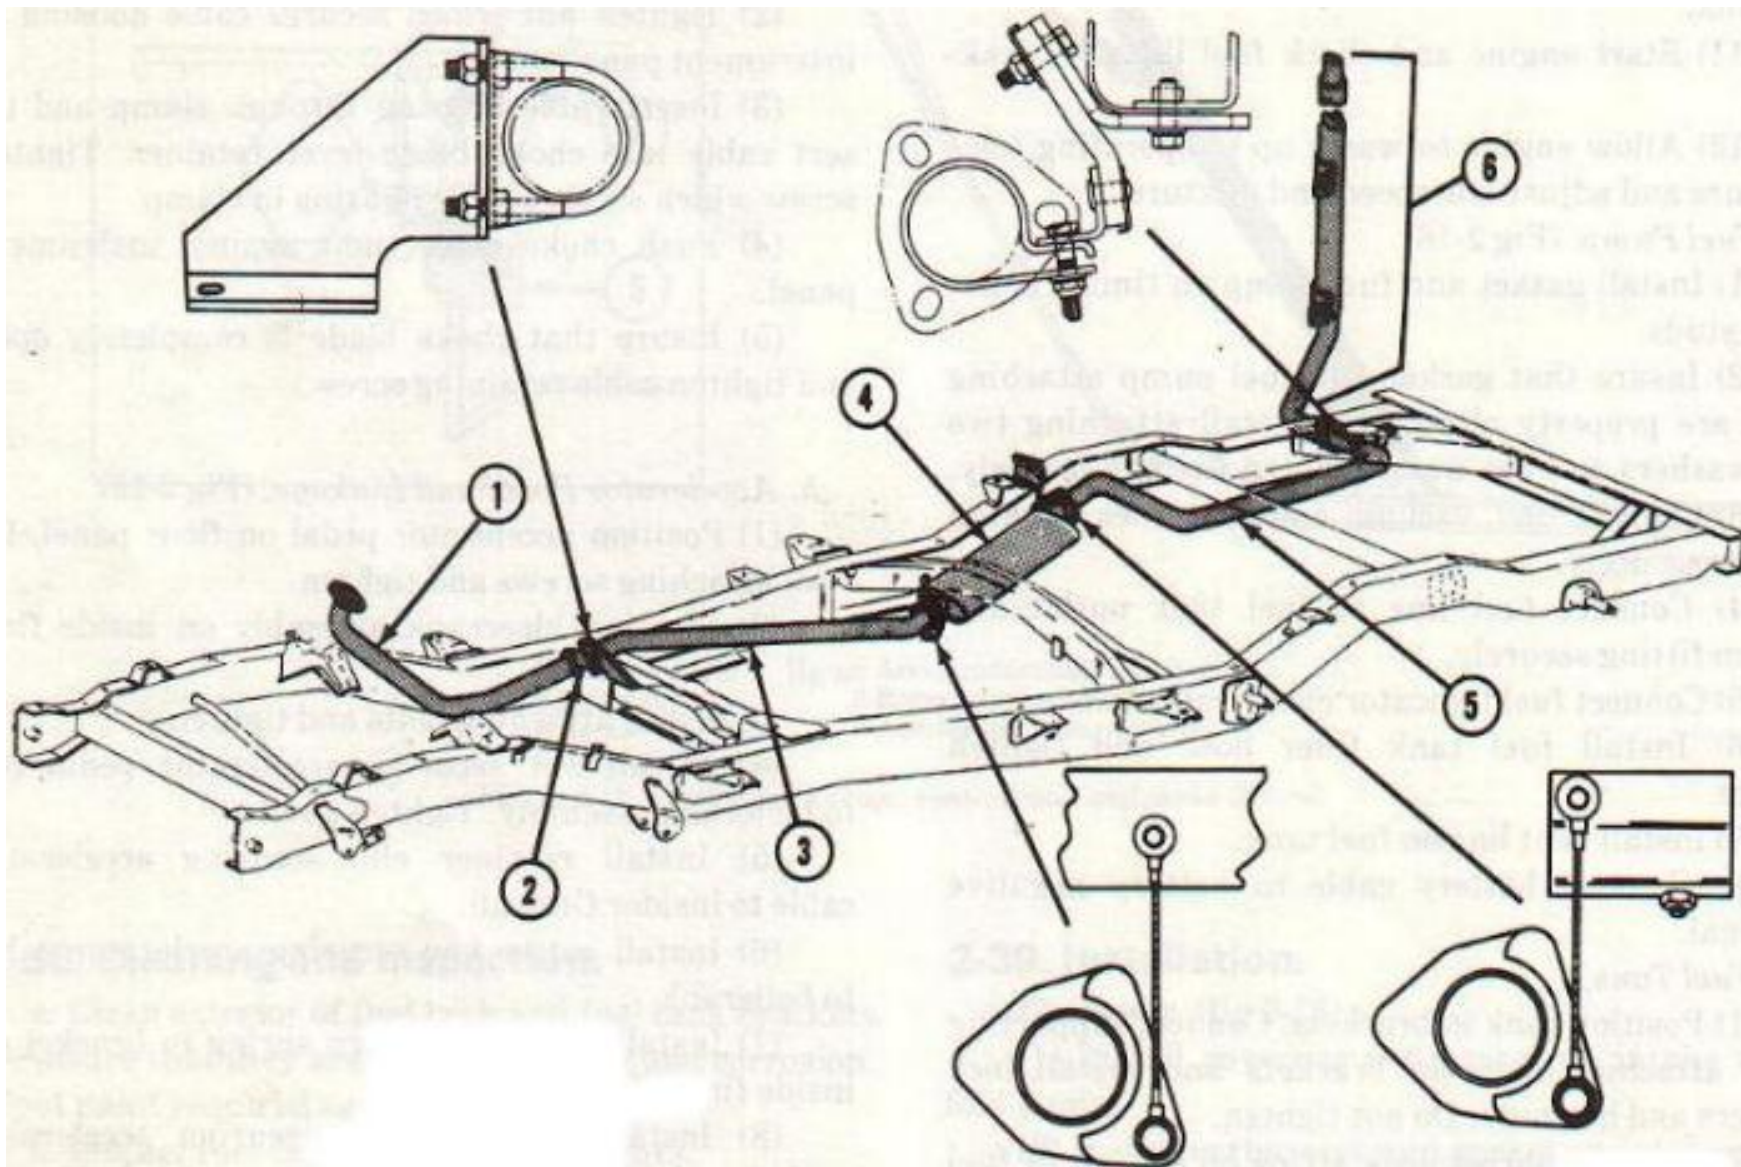

Figure 2-20. Exhaust system.
a. Tail Pipe Hanger and Clamp. (Fig 2-20)
- (1) Remove hex nut, lock washer and bolt from tail pipe clamp.
- (2) Remove hex nut and bolt from hanger insulator to frame bracket.
- (3) Remove tail pipe hanger.